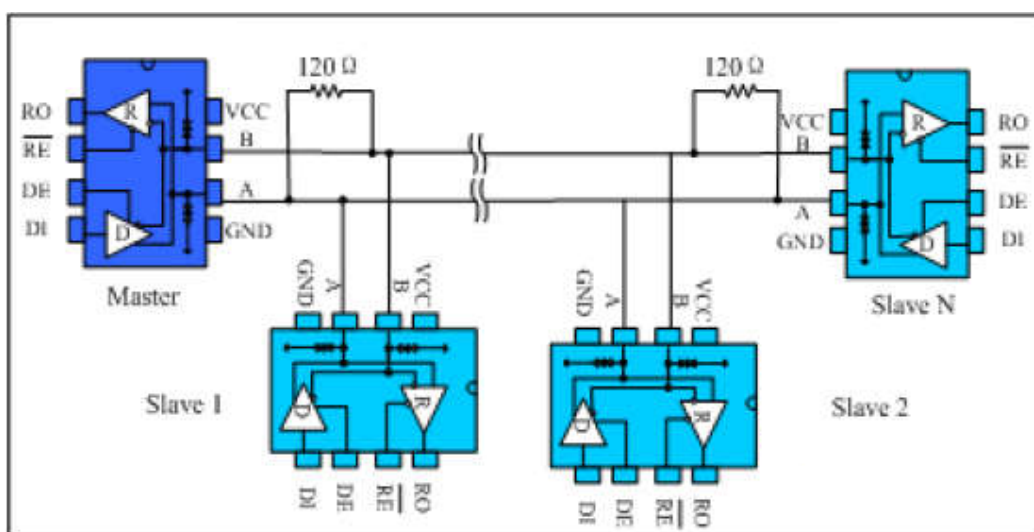

Fig. 9 Bus-type RS485 half-duplex communication network
4.1 Bus networking: The ST3485E RS485 transceiver is designed for bidirectional data communication on multi-point bus transmission lines. Figure 9 shows a typical network application circuit. These devices can also be used as linear repeaters with cables longer than 4000 feet. In order to reduce reflections, terminal matching should be done at both ends of the transmission line with their characteristic impedance, and the length of the branch wires other than the main line should be as short as possible.